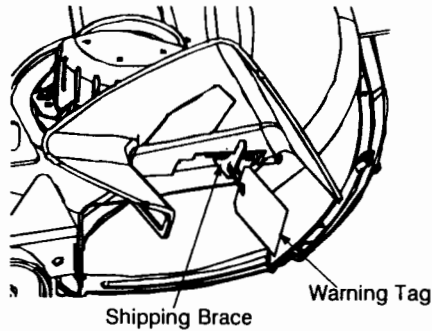

FIGURE 3
1. Locate the discharge chute brace and accompanying warning tag on the right side of the mower, between the discharge chute and the cutting deck. See Figure 3.